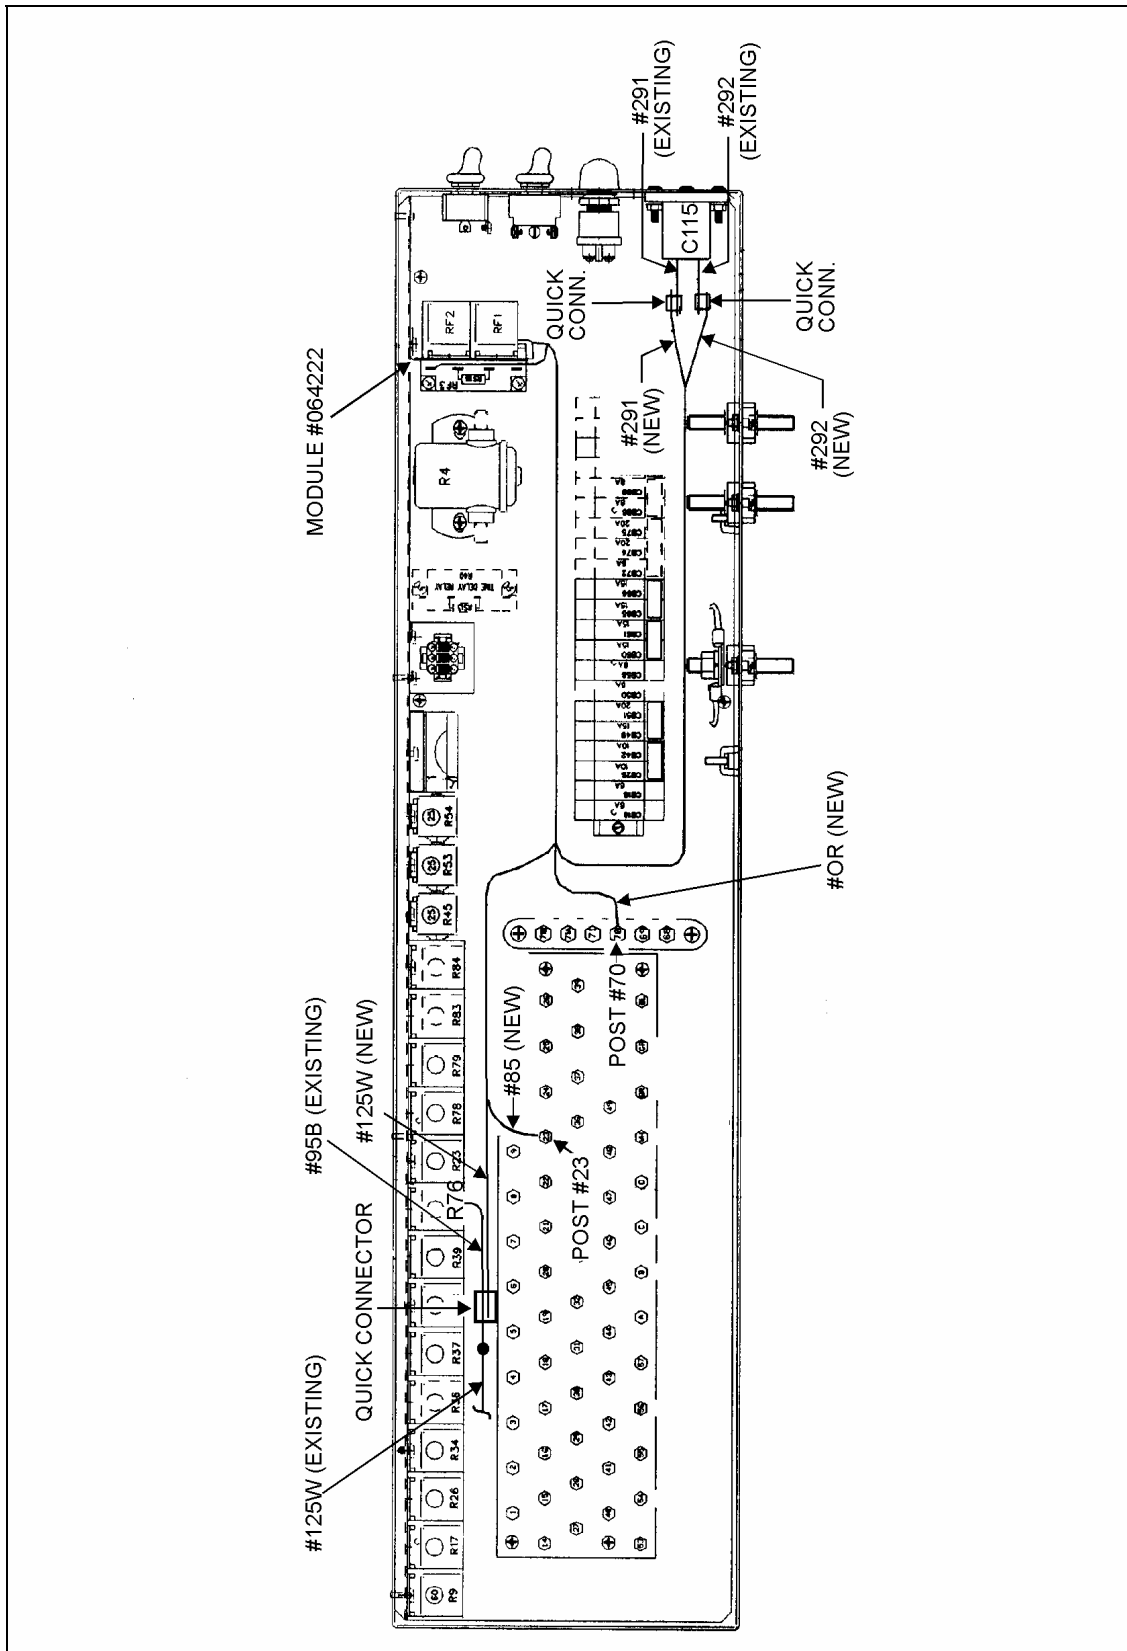

FIGURE 5
5. Identify on wires provided with fan control module, the red wires #291 and #292. Route these wires up to connector C115 following existing harnesses (see fig. 5, page 7). Tap wire #291 with connector C115's wire #291 using quick connector #560710. Repeat for wires #292.